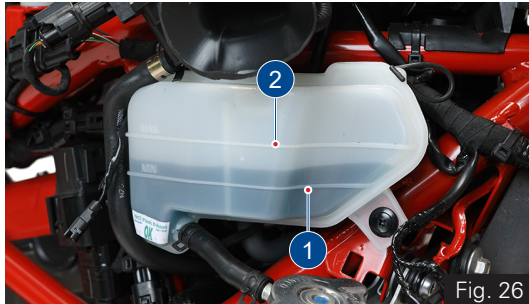

Fig. 26
- The coolant level should be between minimum and maximum level (1 & 2) on the tank (ref. Fig. 26).